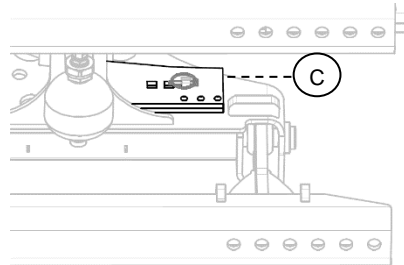

Figure 17
Two extra centre cutting edges (C) are supplied with each VPX folding snow plough. They are located on the right-hand side of the centre frame – (see Figure 17).